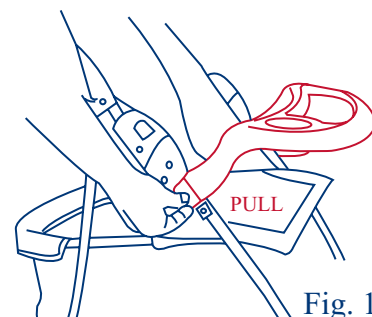

Fig. 13
- * To attach the front child tray, snap each side latch onto the front frame tube just below the fold joint. To remove the front child tray, pull outward on the side latch on the tray. Please see figure 13.
* Pull outward on the tray latches to release. Please see figure 13.